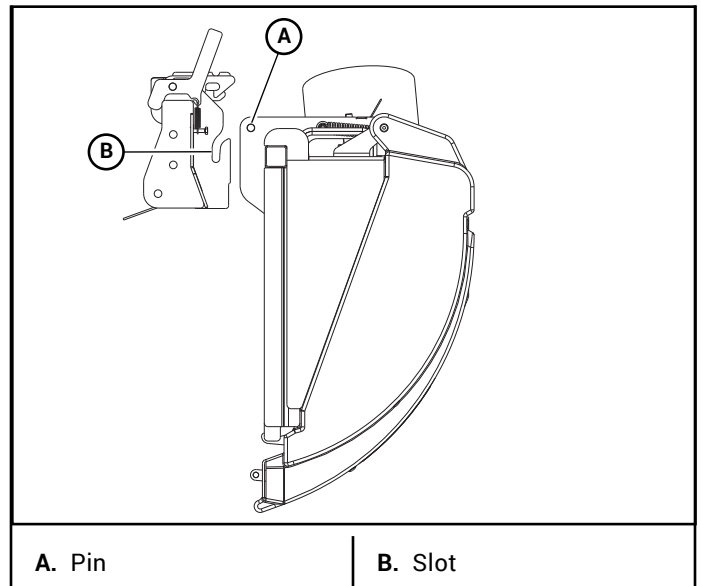

Figure 3-43
2. Slide the hood assembly's lower pivot pins into the slots in the pivot mount assembly. Figure 3-43